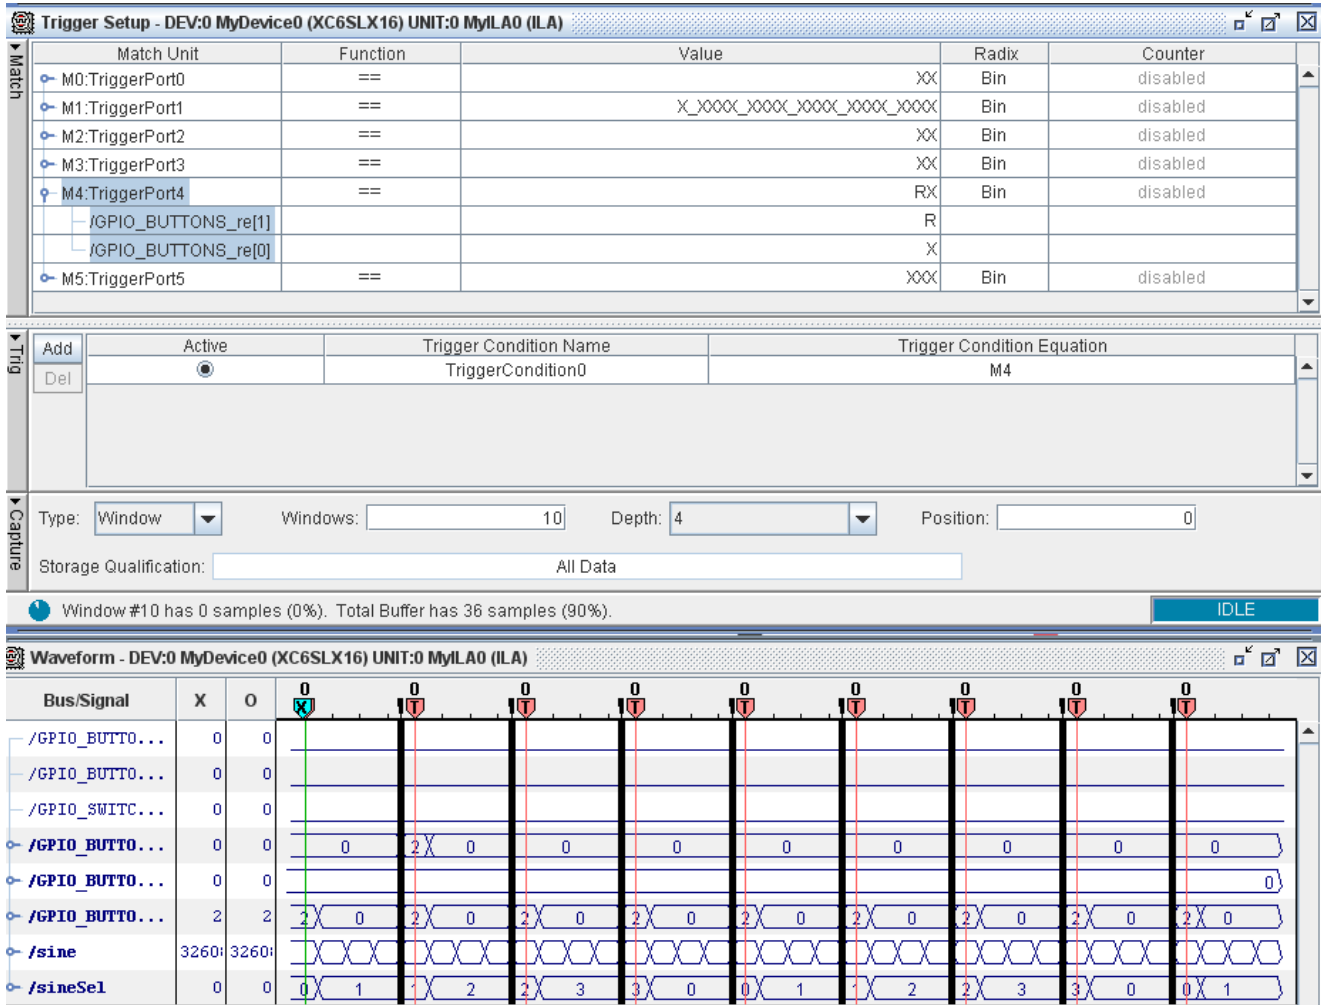

Figure 8: Sample View of Display Setting and State Machine Glitch
3. In the **Trigger Conditions** area of the **Trigger Setup** window, click inside the **Trigger Condition Equation** field. In the resulting dialog box, ensure that the appropriate match unit is enabled. You can tell that the correct match unit is enabled if it is highlighted in blue, as shown in Figure 8, page 18.
4. In the **Capture** area of the **Trigger Setup** window, shown in Figure 8, change the settings as follows:
3. Push the *Sine Wave Sequencer* button on the SP601 board. Observe the number of windows being captured in the status bar that appears just below the capture settings. (The status bar is shown in Figure 8, page 18.) If more than one window is captured with a single push of the button, you have determined that there is an issue on the `GPIO_BUTTON[1]` input. If only one window is captured, try again. You might have to push the button several times to reproduce this intermittent glitch.